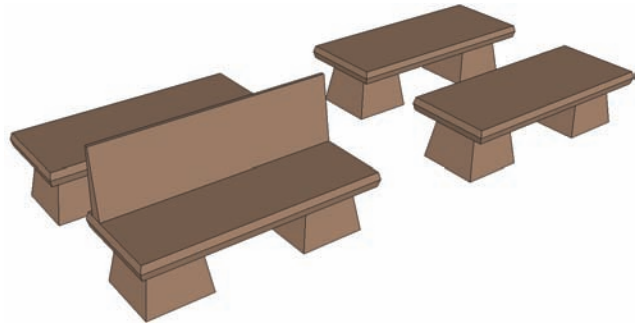

Fig. 8-6: The Made Unique component is edited, but it does not affect other components. It is now its own component.
These new components can be edited without affecting the original component type (Fig. 8-6). Make Unique is not available if there is only one copy of a component in a model. SketchUp automatically renames components after Make Unique is used. It adds a version number such as (1) to the end of the original component name.